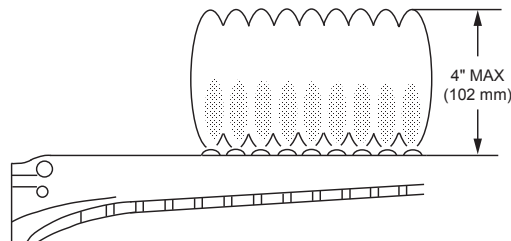
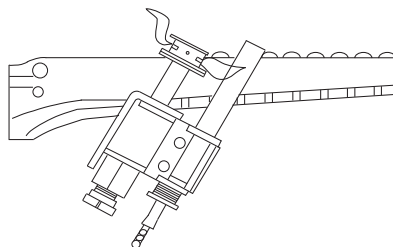

Figure 70. Main Burner Flame
Figure 71. Millivolt Pilot Burner Flame
4. Make visual check of the burner and pilot flames. Yellow flame means restriction of the air openings. Lifting or blowing flame indicates high gas pressure. Low flame means low gas pressure. Should the latter occur, shut the heater off and contact your gas supplier or qualified service agency. See **Figure 70** and **Figure 71**.